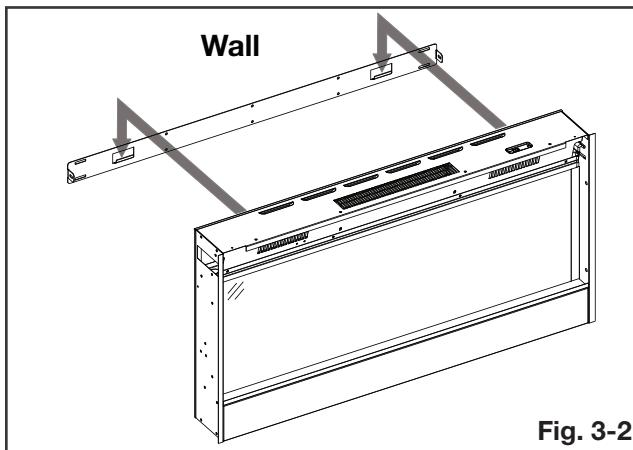

Fig. 3-2
- F.** With the wall mounting bracket installed, have two people lift the appliance up and insert the two hooks on the bracket into the two slots on the back of the appliance (**Fig. 3-2**).